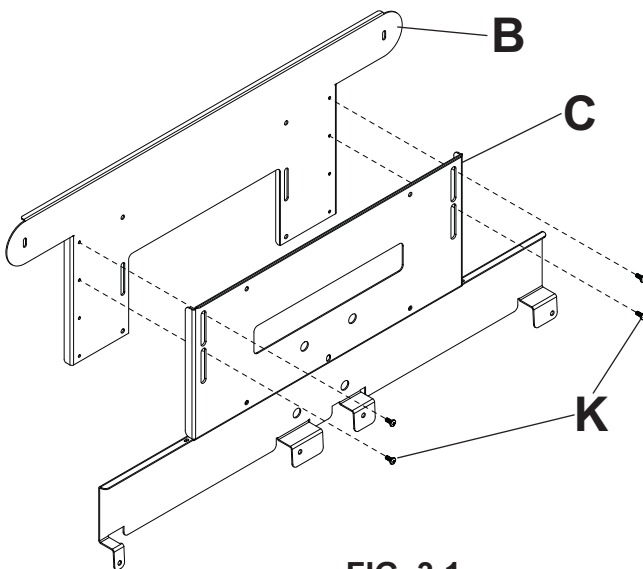

FIG. 3.1
- 3** Assemble upper mounting plate (B) to lower mounting plate (C) using four 10-32 x 1/2" thread forming screws (K). Use configuration as shown in figures 3.1 and 3.2. Do not tighten screws (K).